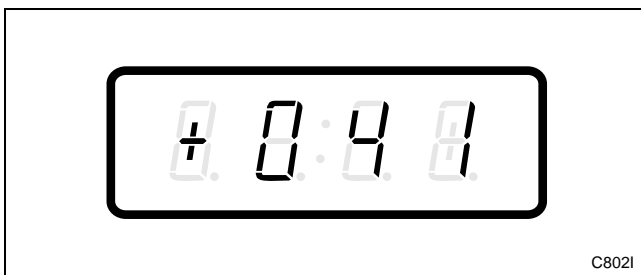

Figure 124
3. Press the DELICATES (+) or the COLD (-) keypad to scroll through the programmable options until “+041” appears in the VFD. Refer to *Figure 124*.